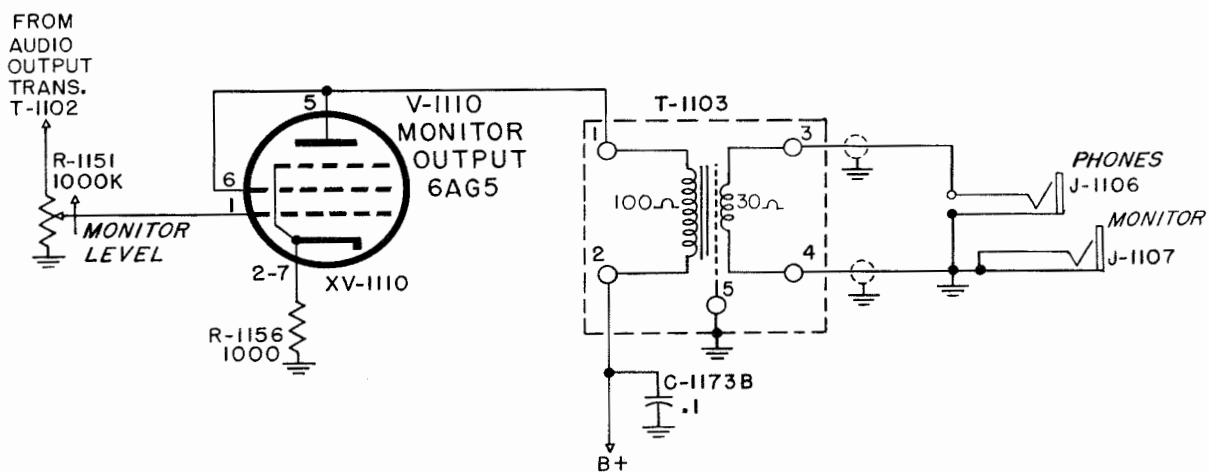

Figure 2-37. Monitor Circuit V-1110, Simplified Schematic Diagram
(3) MONITOR CIRCUIT, V-1110 (KY-62/FRR-24). (See Figure 2-37).—The monitoring stage utilizes a third winding of transformer T-1102 and a type 6AG5 pentode tube V-1110 connected as a triode. The purpose of this circuit is to permit monitoring of the output signals during operating periods. The third winding of T-1102 is connected to the grid of V-1110 through the Monitor Gain control R-1151. Cathode bias is developed across resistor R-1156. Plate voltage is obtained from a voltage divider network consisting of resistors R-1147, R-1148 and R-1149 and is connected into the plate circuit through the primary winding of output transformer T-1103. The voltage divider network is bypassed by capacitor C-1173B. The Phones jack is connected across the secondary winding of T-1103. The Monitor Gain control is used to set the output level at the Phones jack. The setting of this control does not affect the impedance matching or the amplitude of the output signal.